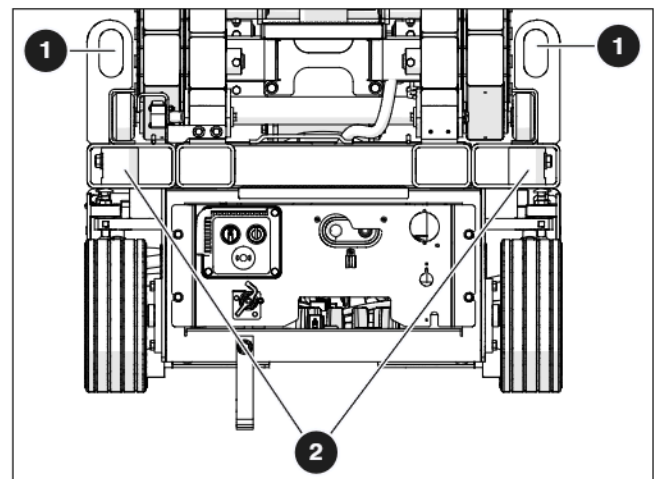
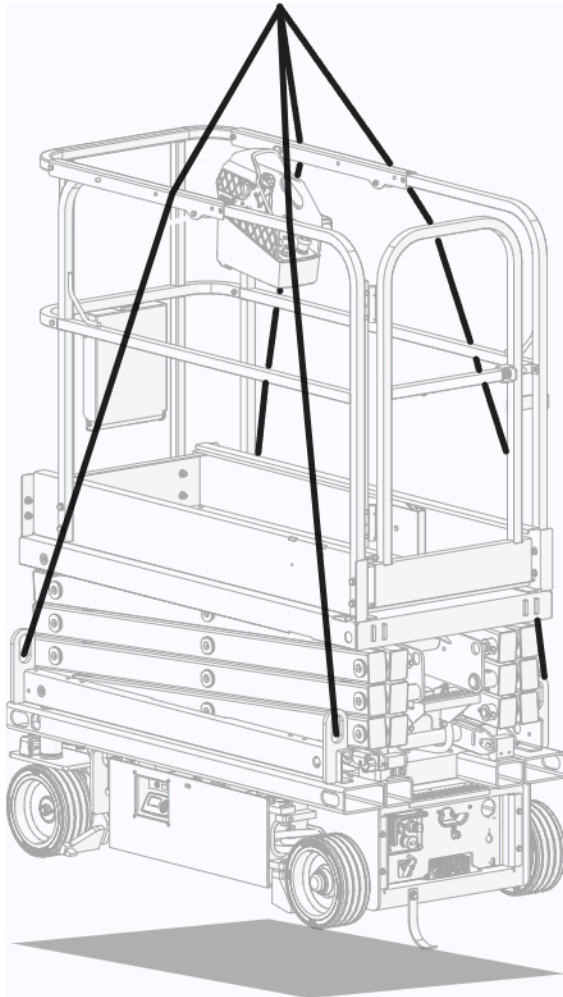

Figure 04 Lift points and forklift pockets
Figure 05 Appropriate method to hoist
- Lift with the forks in the designated **forklift pockets 2**. Refer to Figure 04 and Figure 05.